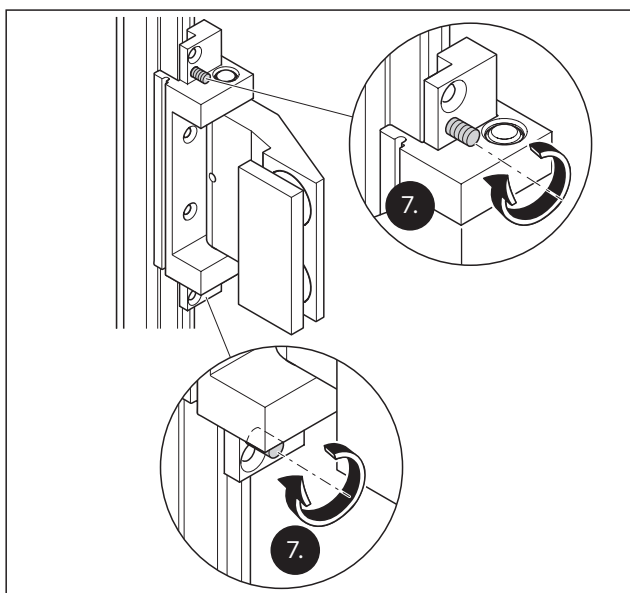

Fig. 36 Determine the position of the door hinge at the top and bottom
7. Determine the position of the door hinge with the upper and lower setscrew at the same time (Fig. 36).